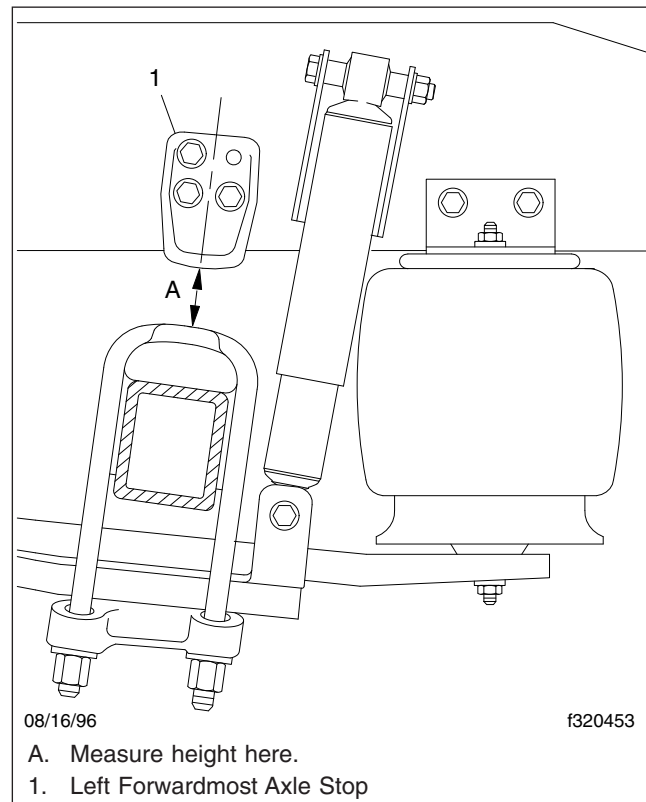

Fig. 7, AirLiner Axle Stop Measurement
4. On single-drive rear axle configurations, measure the distance from the bottom of the left axle stop to the top of the U-bolt pad. On tandem (dual-drive) rear axle configurations, measure the distance from the bottom of the forwardmost left axle stop to the top of the axle U-bolt pad. See **Fig. 7**, Ref. A. The correct distance for single and dual-drive rear axles is between 2-3/8 inches and 2-7/8 inches (60 to 73 mm).